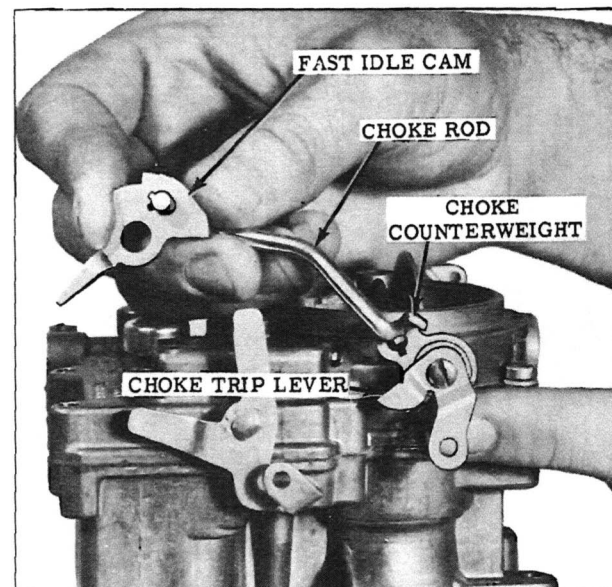

Fig. 35 Attaching Choke Rod
4. (Center Carburetor Only). Install fast idle cam and choke rod assembly to counterweight and then attach the fast idle cam to the bowl. (See Fig. 35)